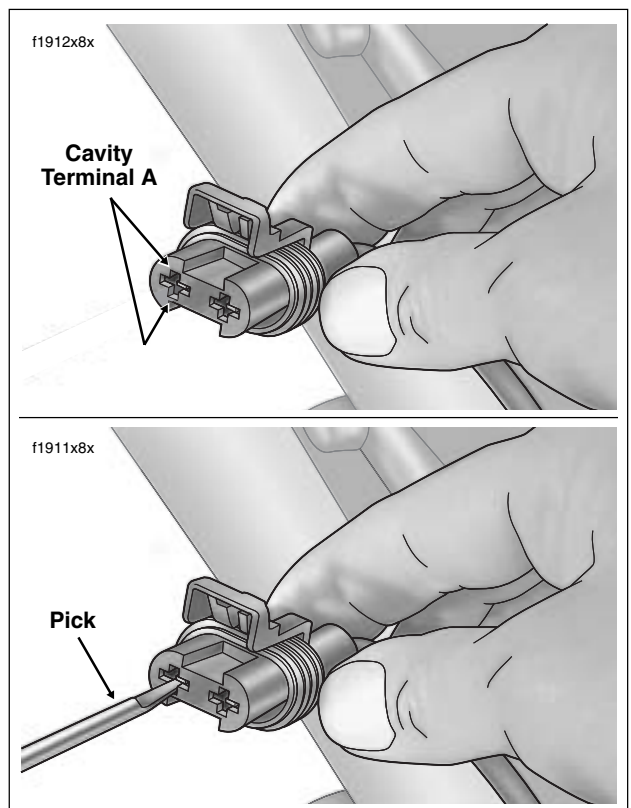

Figure 8-13. Remove Socket Terminals
- a. Looking into the socket housing, take note of the cavity on each side of the terminal. See upper frame of Figure 8-13.
- b. Gently insert pick (Snap-On TT600-3) into the cavity about 1/4 inch (6.4 mm) or until it stops, and pivot the side of the pick toward the terminal body. Repeat step on other cavity. See lower frame of Figure 8-13.